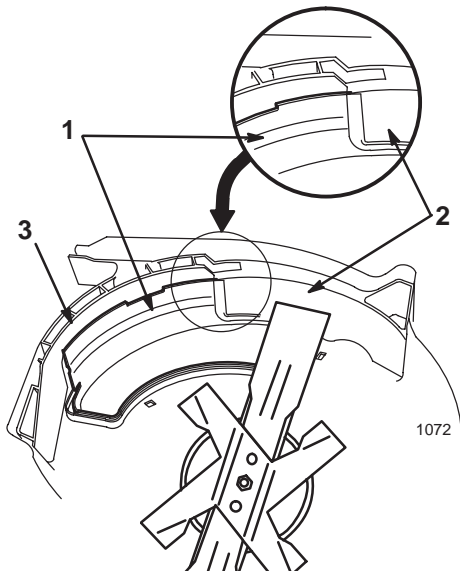

Figure 38
10. Check the clearance between the blade tips and the baffle, ensuring that there is no contact (Fig. 38).
Note: The baffle must go behind the front deck baffle and between the blade and toe guard to prevent contact with the blade (Fig. 38).